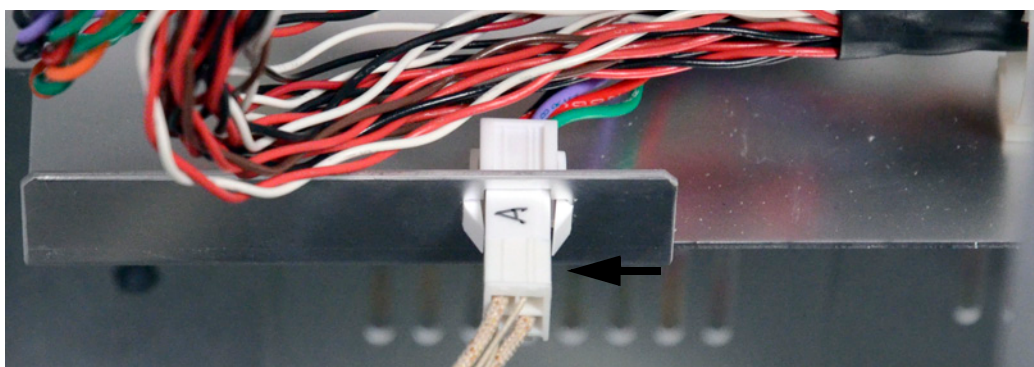

Figure 9 Disconnecting the oven heater connection
- a Disconnect the oven heater cable (Figure 9). The oven heater connection jack is located on the left side behind the oven compartment facing the front of the headspace sampler.